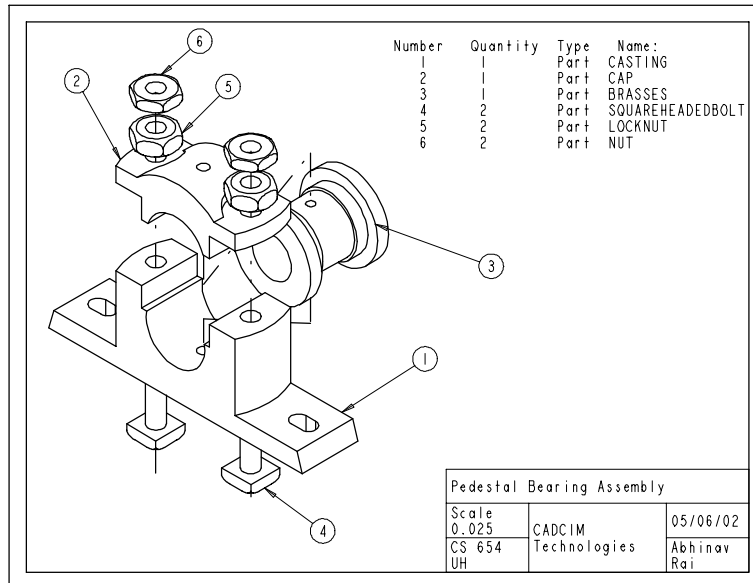

Figure 12-13 The drawing view of the assembly showing the BOM and balloons
Similarly, enter the text in all the remaining cells one by one as shown in Figure 12-13.
8. Select an edge of the Brasses close to the back face and then press the middle mouse button on the screen where the balloon will be placed, see Figure 12-13. The **Message Input Window** is displayed. Enter **3** and press ENTER twice.
9. Choose the **Make Note** option from the **NOTE TYPES** submenu. The **ATTACH TYPE** submenu is displayed. The **On Entity > Arrow Head** option is selected by default. Select an edge of the Cap and press the middle mouse button on the screen where the note will be placed, see Figure 12-13. The **Message Input Window** is displayed. Enter **2** and press ENTER twice.
10. Choose the **Make Note** option from the **NOTE TYPES** submenu. The **ATTACH TYPE** submenu is displayed. The **On Entity > Arrow Head** option is selected by default. Select an edge of the Casting and press the middle mouse button on the screen where the note will be placed, see Figure 12-13. The **Message Input Window** is displayed. Enter **1** and press ENTER twice.
Similarly, place the remaining balloons. The sheet after placing the BOM and adding the balloons should look similar to the one shown in Figure 12-13.